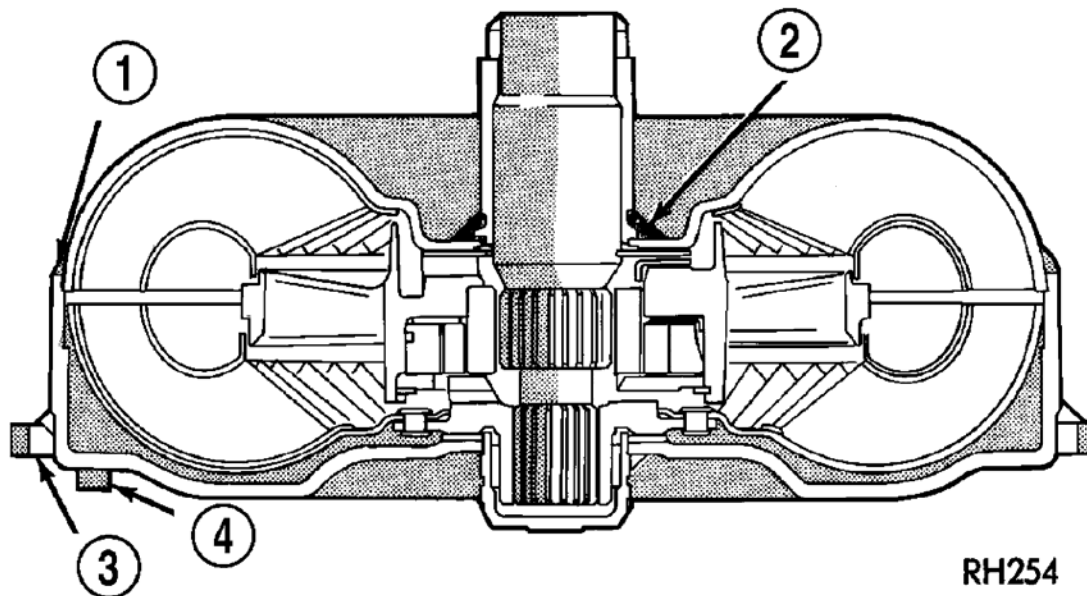

Fig. 12: Outside Diameter Weld, Torque Converter Hub Weld, Starter Ring Gear & Lug
Torque converter weld leaks at the outside diameter weld (1). See **Fig. 12**